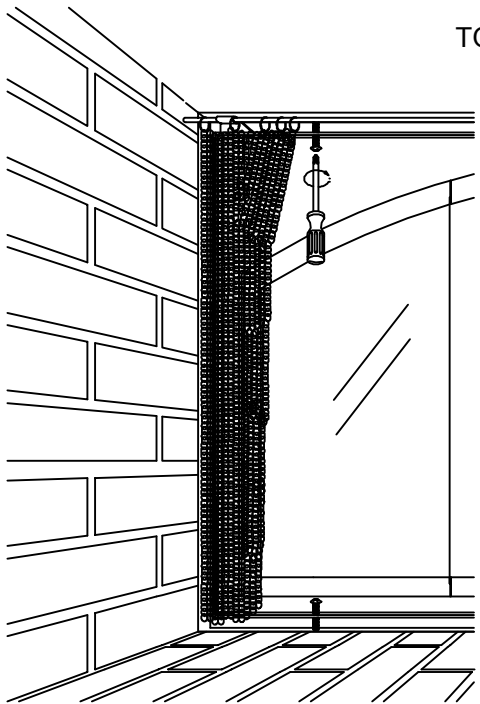

FIG. 1
3. WHILE HOLDING DOOR ONTO THE OPENING, TIGHTEN ONE OF THE TOP ATTACHMENT SCREWS TIGHTLY AGAINST THE METAL OF THE FIREPLACE TIGHTEN THE OTHER TOP SCREW. (SEE FIGURE 1)